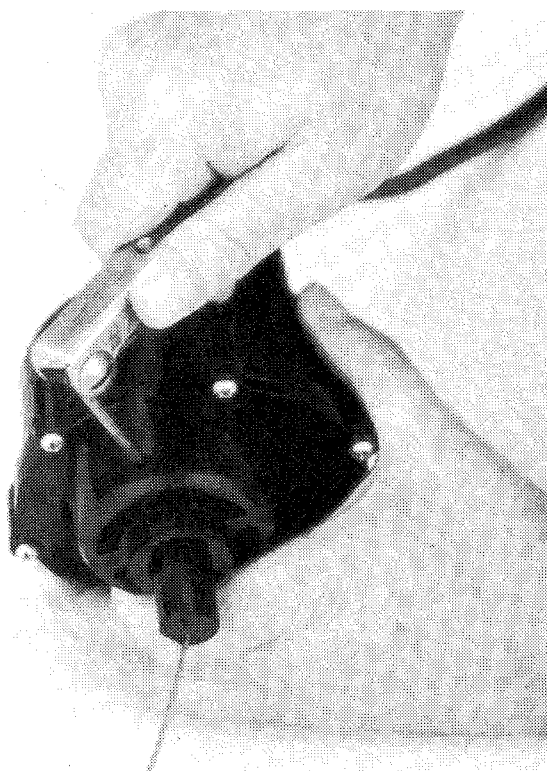

FIG. 8
1. Loosen set screw that holds spring adjusting bushing Fig 8. Set screw is socket head 1/4 inch stainless steel.